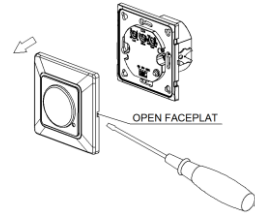

Figure1
- > Unload the faceplate of sensor and adjust the time and LUX knob.(refer to figure 1)